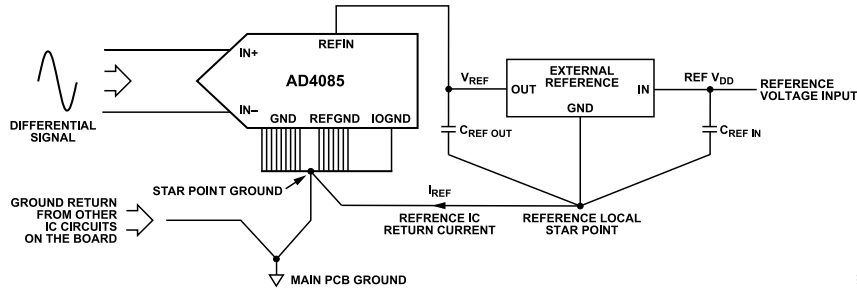

Figure 107. AD4085 External Reference Ground Connections
- ▶ Recommended connections of ground (GND), reference ground (REFGND), and digital ground (IOGND) connections are shown in Figure 107. It is recommended to not keep the current return path of the reference IC in the same current loop as the current return loop from the other circuitry on the PCB. Connect the reference local star point to the ADC star point ground on the top layer of the PCB as shown in Figure 107.